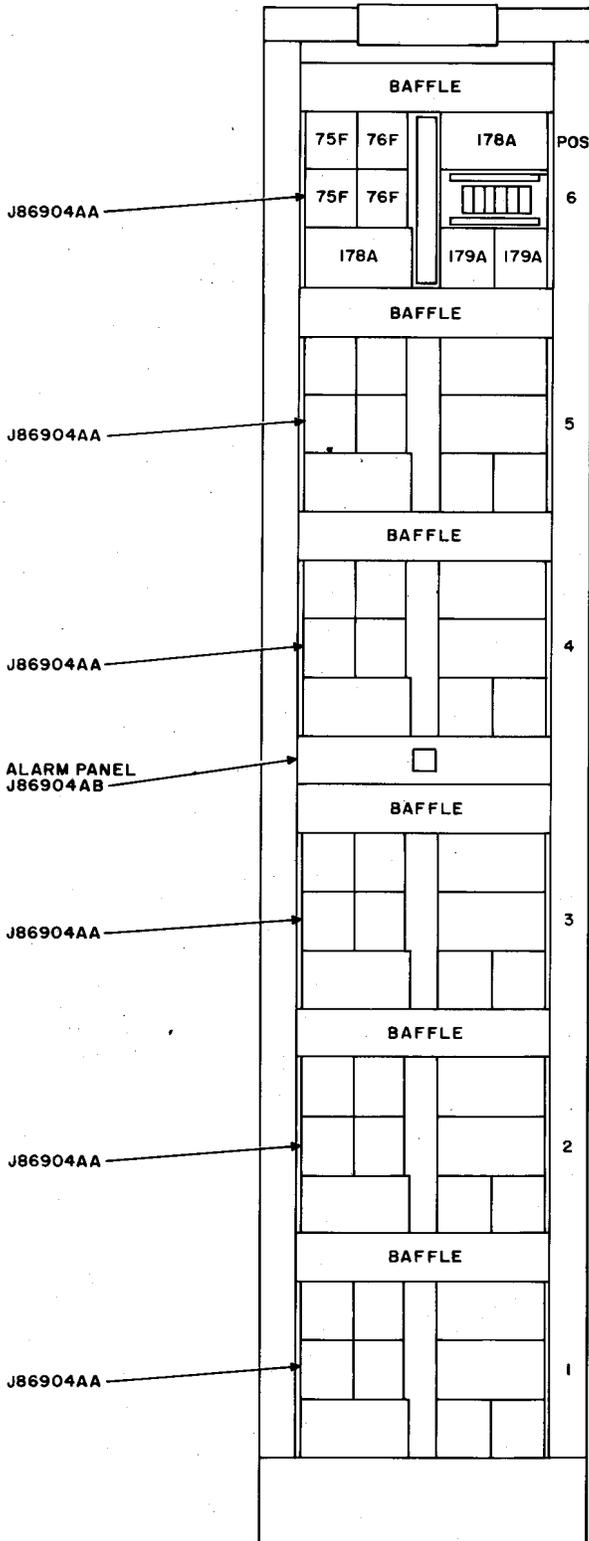

Fig. 1—J86904A Converter Power Plant
**1.04** The 681A plant is mounted in a 9-foot high, 19-inch wide, unequal flange, duct-type, ED-97170-50 frame. A basic J86904A power plant bay is equipped with two J86904AA converter assemblies and one J86904AB alarm panel. When fully equipped, the power plant bay (Fig. 1) contains six J86904AA converter assemblies plus one J86904AB alarm panel and will supply the -12V, -24V, +130V, and +250V required for operating 12 TD-2 radio bays in repeater stations (six E-W bays and six W-E bays). Additional TD-2 radio bays are powered from J86904AA converter assemblies mounted in a J86904B supplementary bay.